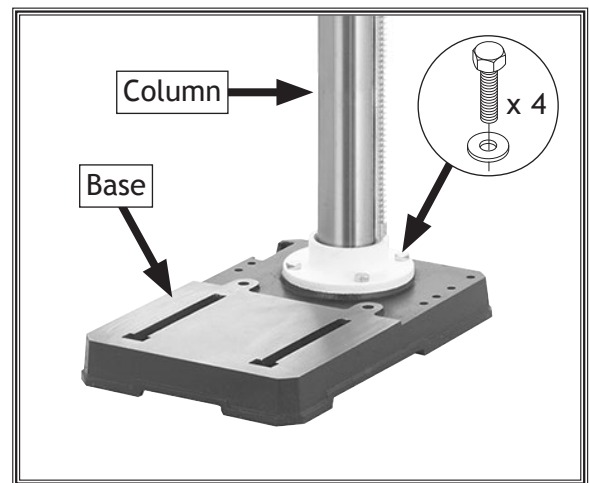

Figure 13. Column attached to base (W1668 shown).
3. Place the column on the base, line up the mounting holes, and secure tightly with the (4) M10-1.5 x 25 hex bolts and 10mm flat washers (see Figure 13).